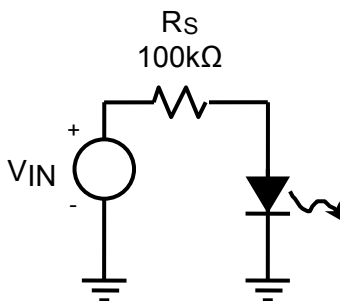

Figure 3-6
- L17. The circuit of Figure 3-6 shows an attempt to drive an LED from a voltage source with a high output resistance $R_S=100\text{k}\Omega$. It is desired that the LED current be at least 5mA for adequate illumination.